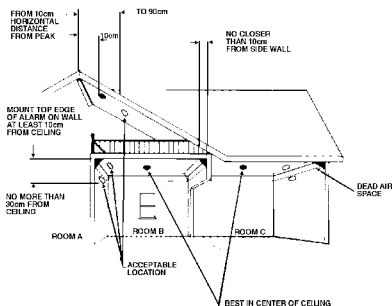

FIGURE 4
- Do install smoke alarms on the ceiling not closer than 4 inches to any wall or corner, or on the wall at least 4 inches but no more than 12 inches from the ceiling. See Figure 4.
- If you have a peaked, sloped, gabled or cathedral-style ceiling, mount your smoke alarm 4 to 36 inches (3 feet) MEASURED HORIZONTALLY FROM THE HIGHEST POINT ON THE CEILING, as shown in Figure 4.
- Do install smoke alarms in both rooms (areas) that are divided by a partial wall extending 8 or more inches down from the ceiling. See smoke alarms located in rooms B and C in Figure 4.